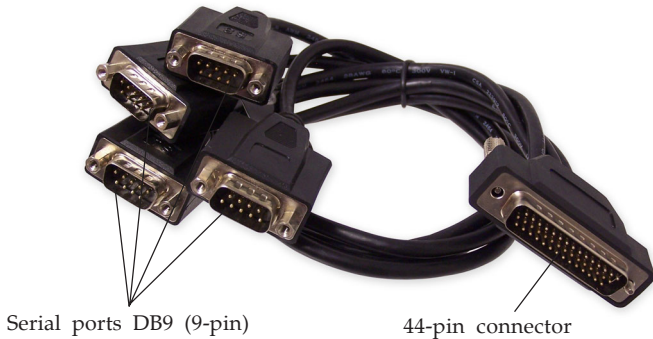

Figure 2. Fan-out cable
9. Connect the **4-port fan-out cable** to the board's **44-pin connector**. For more information, see **Figure 2** on page 3.